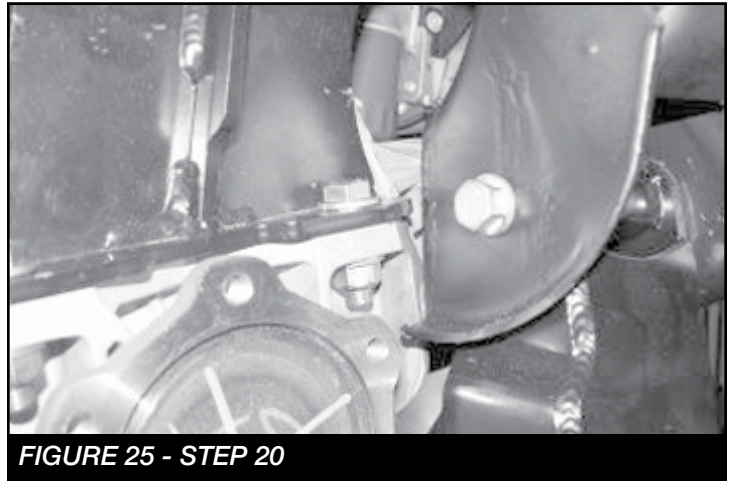

FIGURE 25 - STEP 20
20. Locate and install FT20611BK rear crossmember into the factory lower control arm pockets using the stock hardware and leave loose at this time. **(CHECK THE CLEARANCE OF THE DIFF TO CROSSMEMBER WHERE IT WAS SANDED DOWN IN STEP #17 FOR ADAQUATE CLEARANCE TO THE FRAME AND CROSSMEMBER). SEE FIGURE 25**